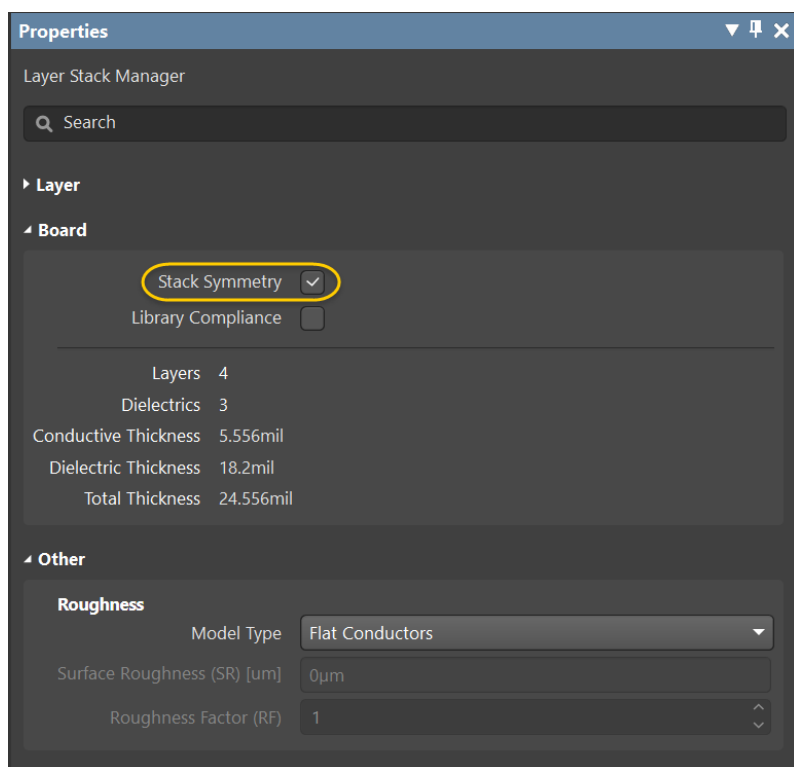

Figure 3. Stack Symmetry option
- After inserting the signal layer, you'll notice that 2 signal layers we're added, **Layer 1** and **Layer 2**. This is because the **Stack Symmetry** option is enabled as shown in Figure 3. This option can be enabled or disabled in the future as you wish.